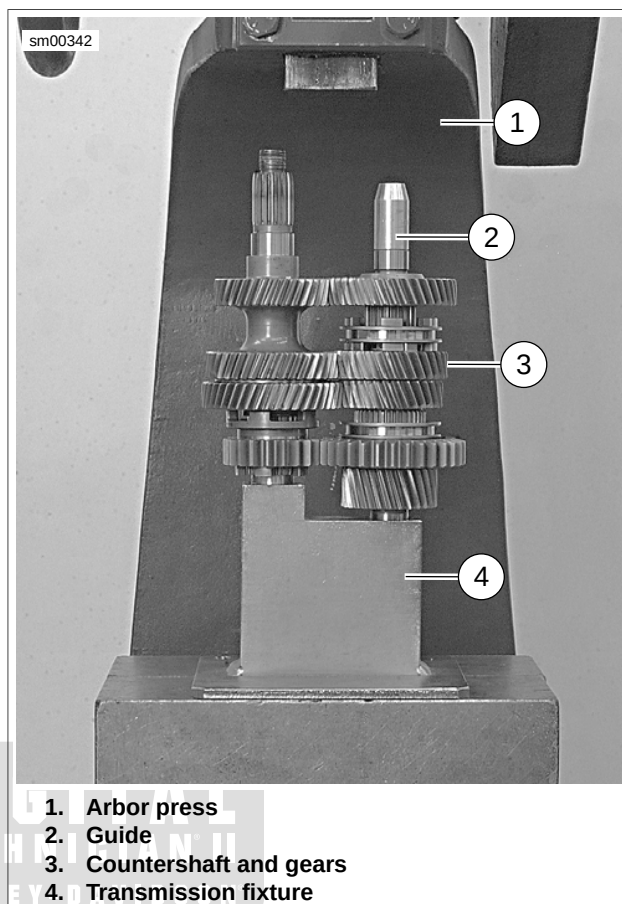
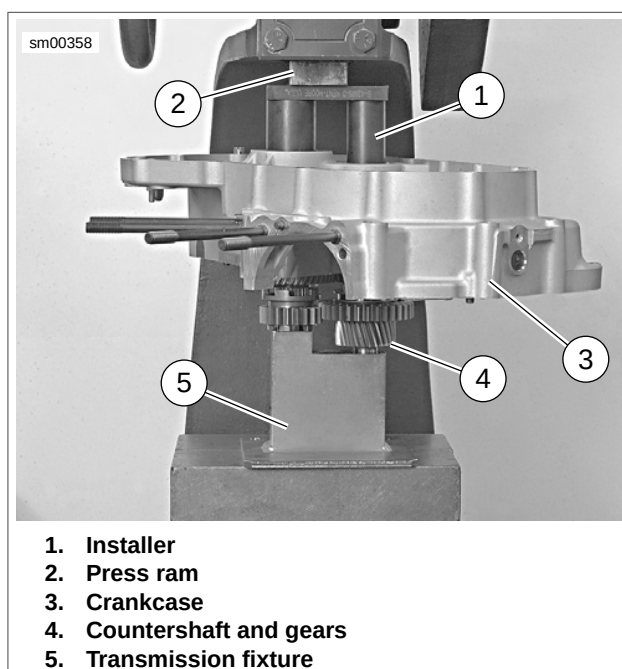

Figure 6-86. Transmission Assembly in Fixture (Typical)
Figure 6-87. Pressing Transmission Into Left Crankcase (Typical)
1. See Figure 6-86. Place transmission assembly onto TRANSMISSION FIXTURE (Part No. B-46285 (4)) on arbor press (1).
2. Install transmission remover/installer tool GUIDE (Part No. B-43985-4) (2) over the end of the countershaft.
3. See Figure 6-87. Place left case half over transmission assembly and install transmission remover/installer tool INSTALLER (Part No. B-43985-3) (1) into crankcase.
6. Remove left crankcase half and transmission assembly from fixture (5).